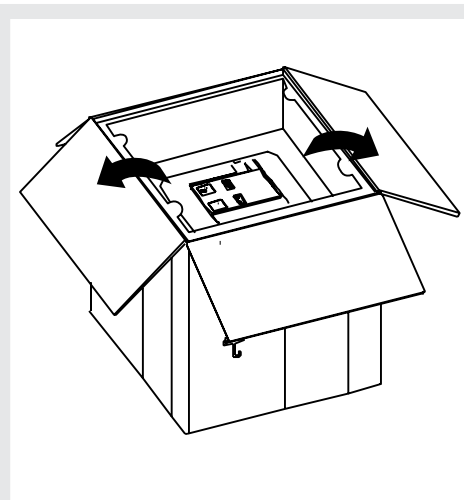
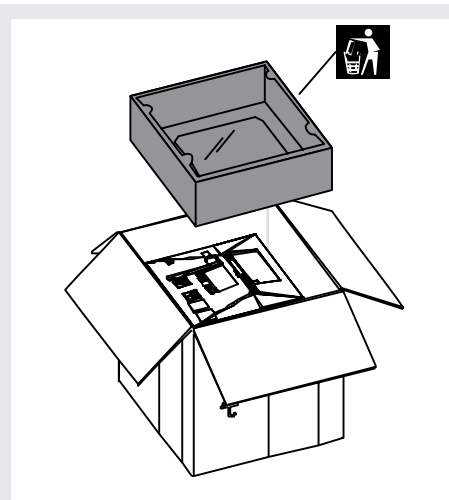

Figure 8
Figure 9
2. Open the upper part of the packing box and remove the upper containment protection. See Figure 8 and Figure 9.